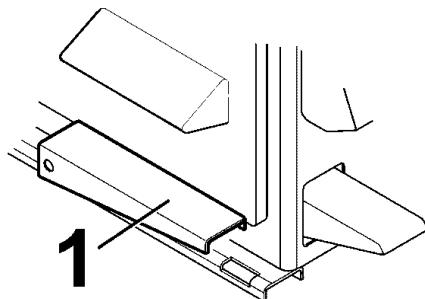

Figure 3.0-2
- G** Press bead-seater pedal on left side of the machine (**5**,Fig.3.0-1 / **1**,Fig. 3.0-2) halfway down: This will allow activate the tire inflation line.
- H** Press bead-seater pedal (**1**, Fig. 3.0-2) swiftly all the way down to get air blast from the inflator jets in the clamping jaws. Air simultaneously comes out of inflator hose.